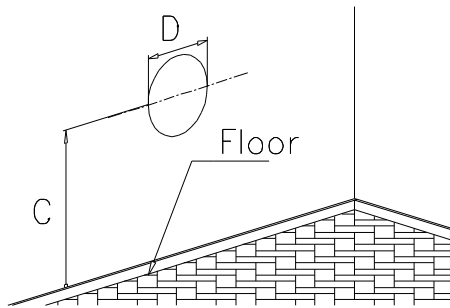

Figure 5
1. Draw the position of the hole for the air-vent intake pipe, taking into account the minimum clearances mentioned in figure 4. See diameter of the hole "D" and height to the center "C" in table 1 and figure 5 for the different models. Height "C" is the minimum recommended.